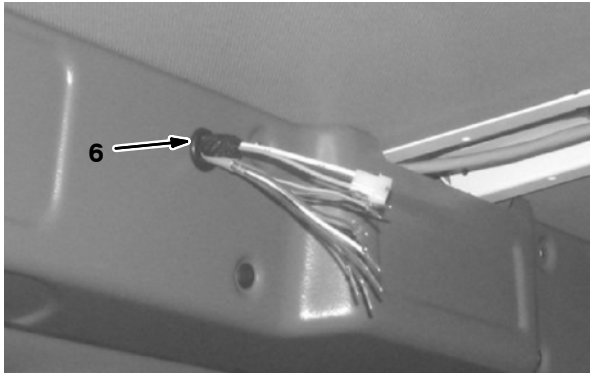

FIG. 7
8. Route the arrow stick controller connector on the main wire harness and the arrow stick cable assembly (2) through the 5/8 in. hole in the upper control panel and reinstall the panel onto the machine. Refer to Fig. 6 and Fig. 7.
9. Slide the grommet (6) over the arrow stick controller connector and arrow stick cable assembly (2) and install the grommet (6) into the 5/8 in. hole in the upper control panel and metal backing. Refer to Fig. 7.
10. Plug the the arrow stick controller connector from the main harness and the arrow stick cable assembly (2) into the controller. Refer to Fig. 7 and Fig. 29.